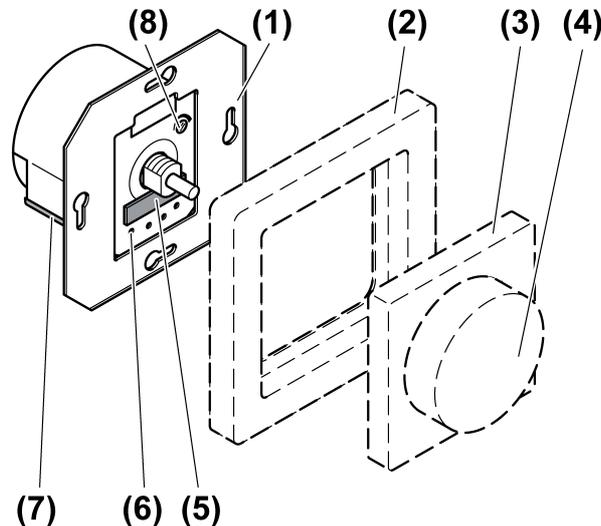

Figure 1: Device components
- Adjust minimum brightness by turning the adjuster (8) (Figure 1).